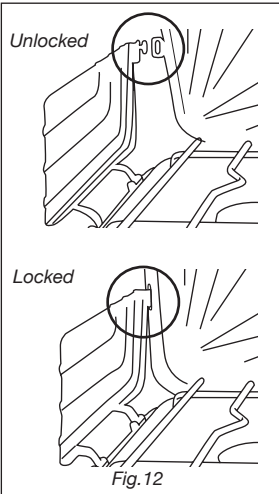

Fig. 12
7. Locate positioning for use. See Fig. 12
- Lift the 2 side flaps and lock lid latch tabs into place, by securing the latch tab into the slot situated in the flap on each side of the unit. See Fig. 12